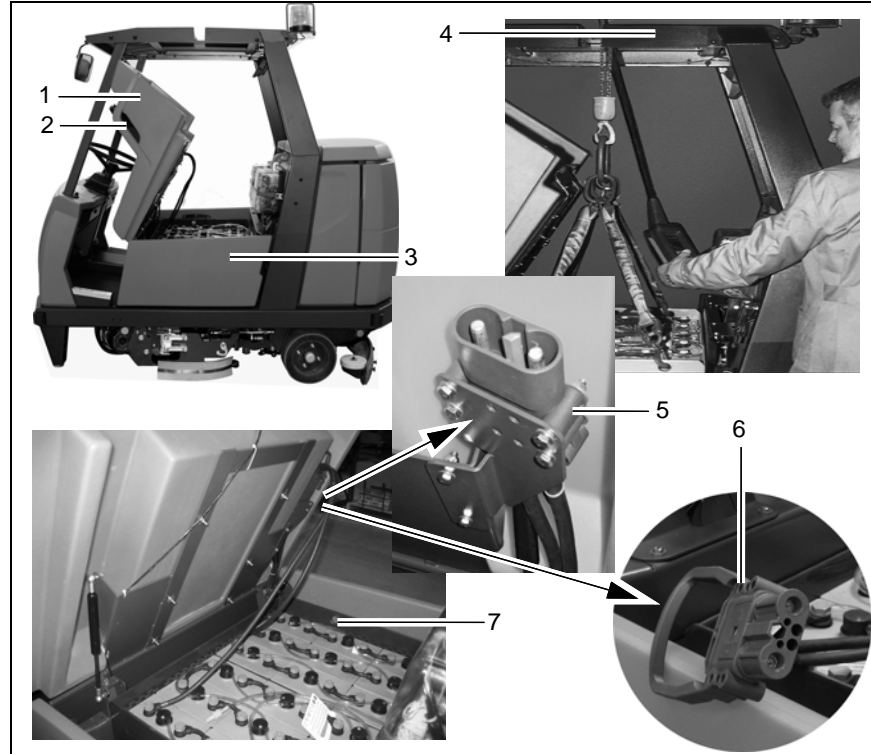

Fig. 24
2. Open the side doors to the left and right (Fig. 24/3).
3. Positioned on the right-hand side of the vehicle, take hold of the seat console at the handle (Fig. 24/2) and pivot up towards the front.
Pivot the seat console (Fig. 24/1) open from the right-hand side of the vehicle otherwise your hands could be crushed between the seat console and cab safety roof (if fitted).
4. Disconnect the battery and vehicle plug (Fig. 24/5+6).
If the scrubber drier is equipped with a cab safety roof, lift the trough battery out on the left-hand side of the battery. The cab safety roof has a recess (Fig. 24/4) for the lifting gear rope.
5. Guide the lifting gear from the left to the battery and hang the hooks in the fitting holes on the battery trough (Fig. 24/7).
1. Open the side doors to the left and right (Fig. 24/3).
2. Take hold of the seat console (Fig. 24/1) at the handle (Fig. 24/2) and pivot it forwards to open it.
Install the trough battery in the vehicle from the left-hand side of the vehicle using lifting gear or a fork-lift truck according to Figure 24.
If the scrubber drier is fitted with a cab safety roof, the trough battery can only be installed from the left-hand side of the vehicle; the cab safety roof is provided with a recess (Fig. 24/4) for the lifting gear rope.
Connect the battery plug (Fig. 24/6) and vehicle socket (Fig. 24/5) to each other. Ensure they are connected firmly.